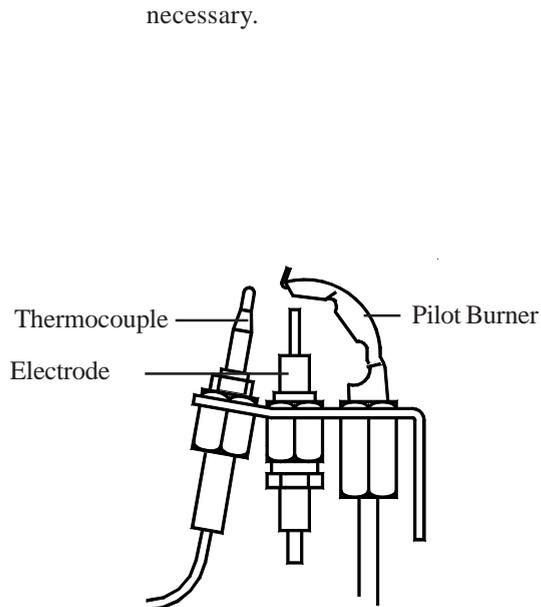

Fig. 3
5.3.3 Referring to lighting instruction label, ignite the pilot burner and referring to Fig. 3, ensure that the pilot flame envelopes the thermocouple tip, adjusting the Pilot Adjusting screw if necessary (at least open by four full turns).